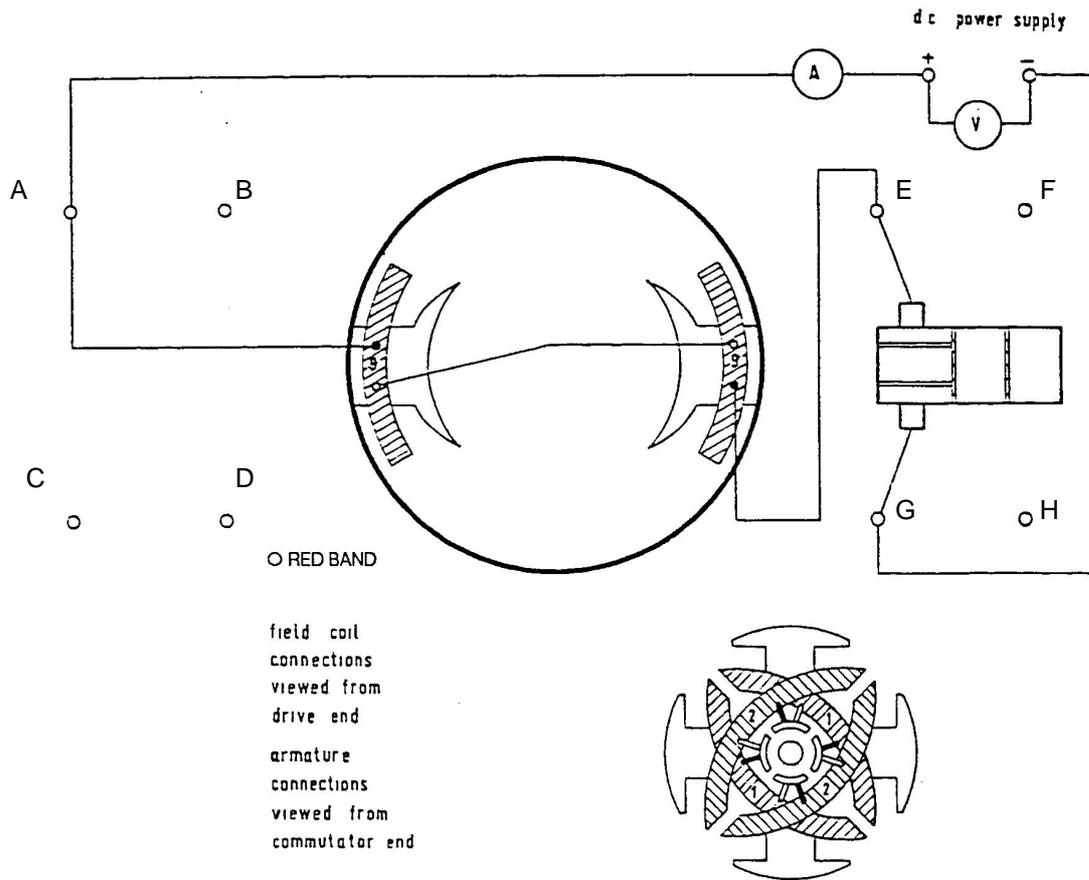

Fig 2.2 Wiring Diagram dc Series Motor
8. Make the connections shown in the wiring diagram, fig 2.2, which is for a dc series motor covered in Assignment 19 of Dissectible Machines System manual 62-005 The 62-100 is now ready for use when the appropriate power supply unit has been set up.